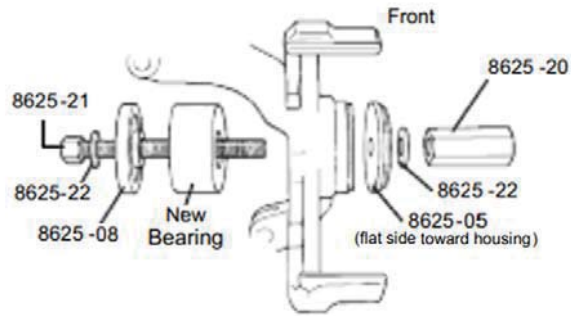

Figure 3
3. Lightly lubricate the new bearing, and position it for installation with the tool components assembled as shown in Figure 3.
4. Lightly lubricate the new bearing, and position it for installation with the tool components assembled as shown in Figure 3.